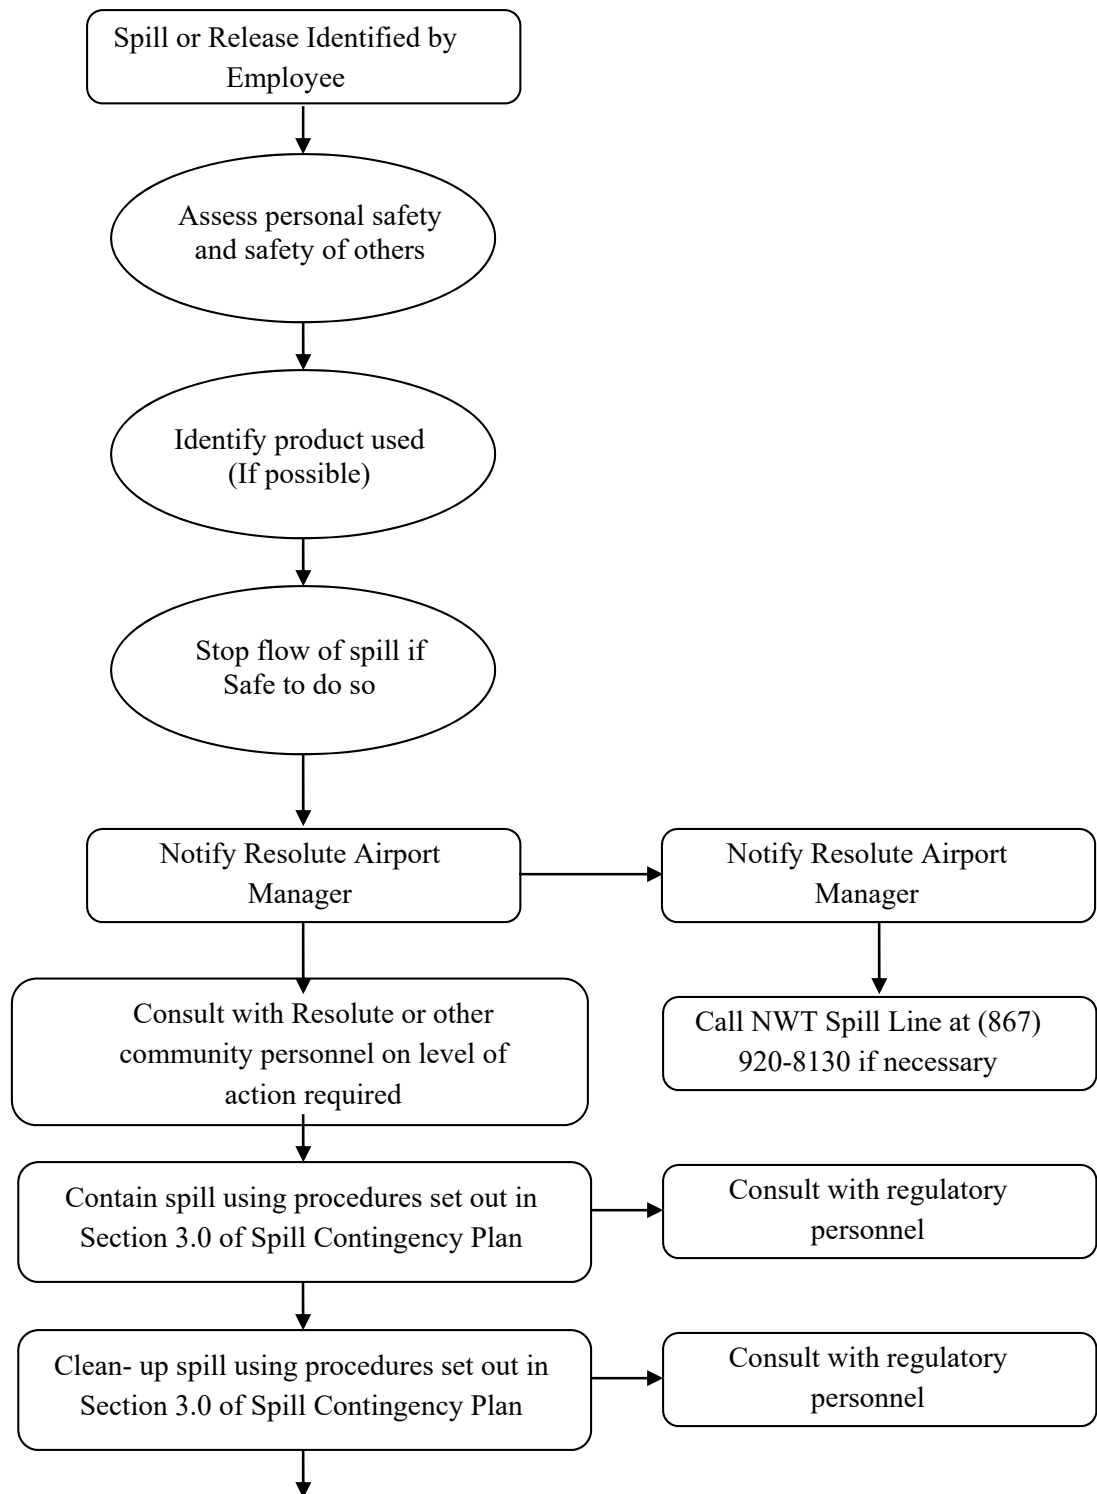

Figure 5: Flowchart of Spill Communication Lines
- Contact SAO of the Resolute Bay Hamlet office, as per flowchart in **Figure 5**.